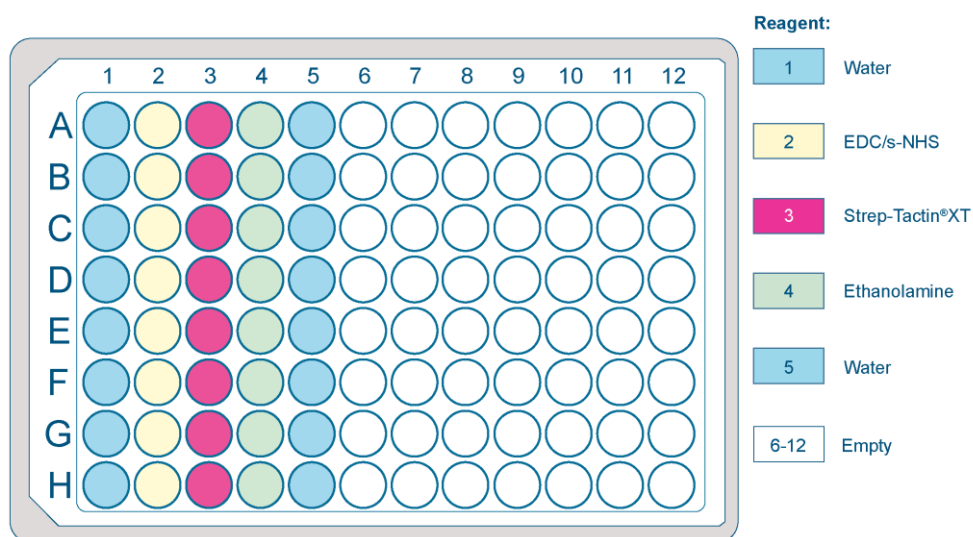

Figure 1: Pipetting scheme of the 96-well for coating of Strep-Tactin®XT biosensors. The reagent in each column is color-coded and listed in the legend.
- 4.2.2** Prepare a 96-well plate for immobilization and drying as shown in figure 1.
Table 1: Octet® program for coating of Strep-Tactin®XT biosensors. ** Column refers to the column in the 96-well plate for the immobilization and drying as shown in figure 1.